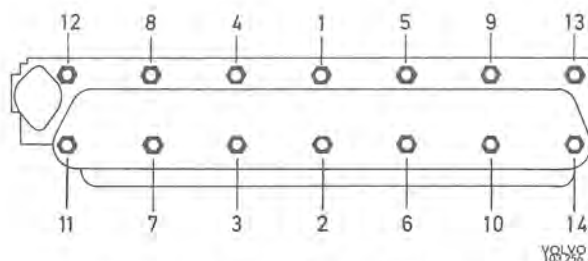

Fig. 2-22. Tightening sequence for cylinder head bolts
The cylinder head is fitted with the help of dowels SVO 2435. The bolts must be tightened in a certain sequence, see Fig. 2-22, to avoid unnecessary stresses.
Check that the oilway (Fig. 2-18) for the rocker arm mechanism is clean on the tappet side. In the cylinder head the oil goes up through the bolt hole, between the bolt and the wall cavity and then through an oblique drilling to the attaching bolt for the rocker arm shaft and finally up the shaft. Mount the manifold onto the cylinder head. Place the cylinder head gasket and cylinder head in position with the lettering "TOP" facing upwards. (Wide edge faces upwards.) Dowel pins SVO 2435 can be suitably used for this purpose. Oil the bolts. Tighten them a 1st and 2nd stage according to the tightening sequence given in Fig. 2-22.
4. Place the cylinder head in position. Fit the bolts and remove the dowels. The cylinder head bolts should be tightened in three stages, 1st stage: 4.0 kpm (29 lbft), 2nd stage: 8.0 kpm (58 lbft) and the third stage, 9.0 kpm (65 lbft) after running the engine warm according to point 17. The bolts should be tightened in the sequence shown in Fig. 2-22.